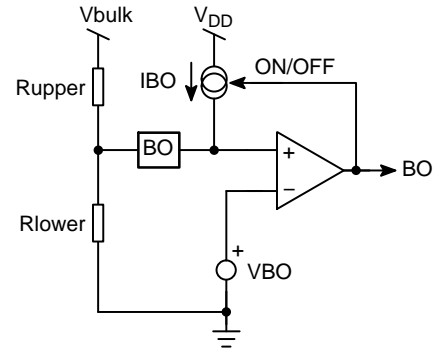

Figure 40. The Internal Brown-out Configuration with an Offset Current Source
The Brown-Out circuitry (BO) offers a way to protect the resonant converter from low DC input voltages. Below a given level, the controller blocks the output pulses, above it, it authorizes them. The internal circuitry, depicted by Figure 40, offers a way to observe the high-voltage (HV) rail. A resistive divider made of R_{upper} and R_{lower} brings a portion of the HV rail on Pin 5. Below the turn-on level, the 28 μ A current source IBO is off. Therefore, the turn-on level solely depends on the division ratio brought by the resistive divider.